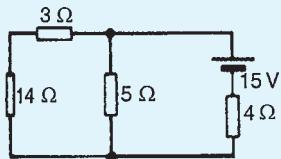

Figure 13.49
1. Use Thévenin's theorem to find the current flowing in the 14Ω resistor of the network shown in Fig. 13.49. Find also the power dissipated in the 14Ω resistor.